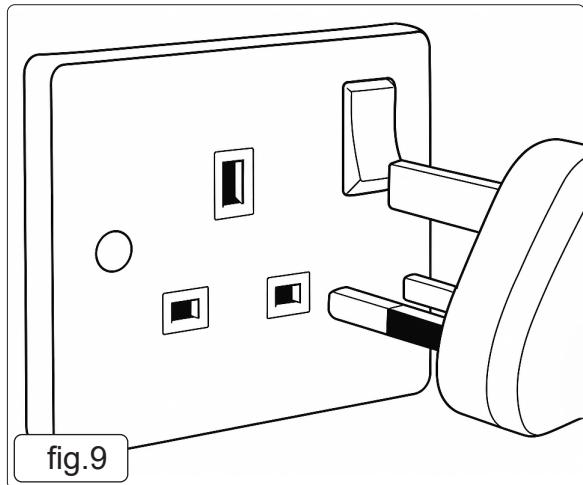

fig.9
6.3. Connect the mains power cord to the unit as shown in fig.9.